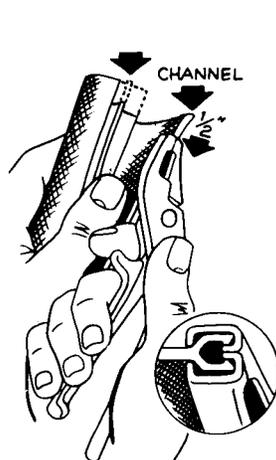

Figure 3
4. Rotate the pliers 180° and pull the jacketing around the cable bundle. Insert the arrow portion into the side of the tool (Figure 3).